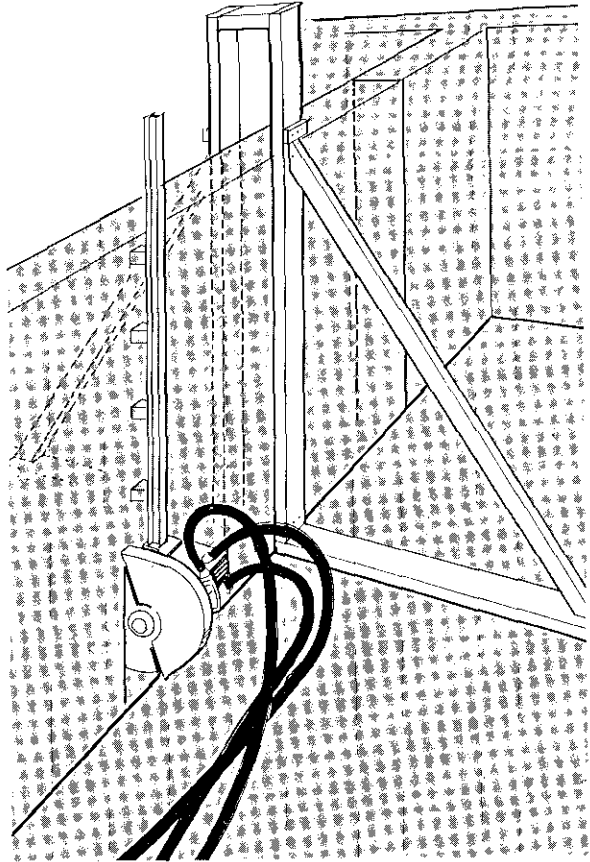

FIGURE 12
- When cutting openings in concrete or masonry walls, the section to be removed should be supported to prevent accidental toppling (Figure 12).